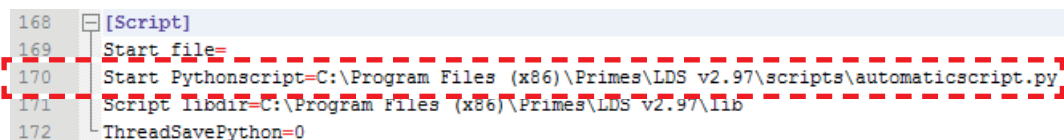

Fig. 21.25: Registration in the laserds.ini
3. Please register this file, as shown in Fig. 21.25 (line 170).